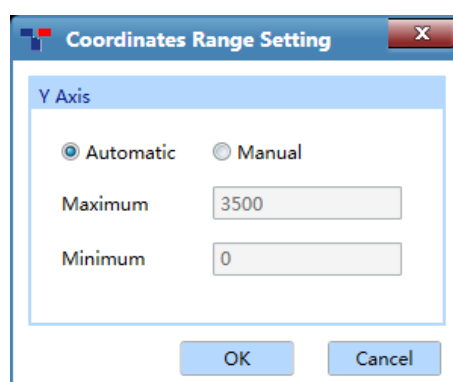

Figure D-7.1a Run Monitoring interface - Coordinate Range Setting
- <  **Y-axis Coordinate Adjustment** >: user can adjust the Y-axis coordinate of the real-time fluorescence monitoring diagram. Please click <  **Y-axis Coordinate Adjustment** > icon and the coordinate range setting box will pop up automatically, as shown in figure D-7.1a. User can select **Automatic** or **Manual** option in the coordinate range setting box to set the Y-axis coordinate. If the **Automatic** option is selected, the application software will automatically adjust the Y-axis coordinate according to the detected fluorescence value; if the **Manual** option is selected, user can manually enter or use  and  keys to set the maximum and minimum value of Y-axis coordinate range in the **Maximum** and **Minimum** input box and click < **OK** > to confirm.